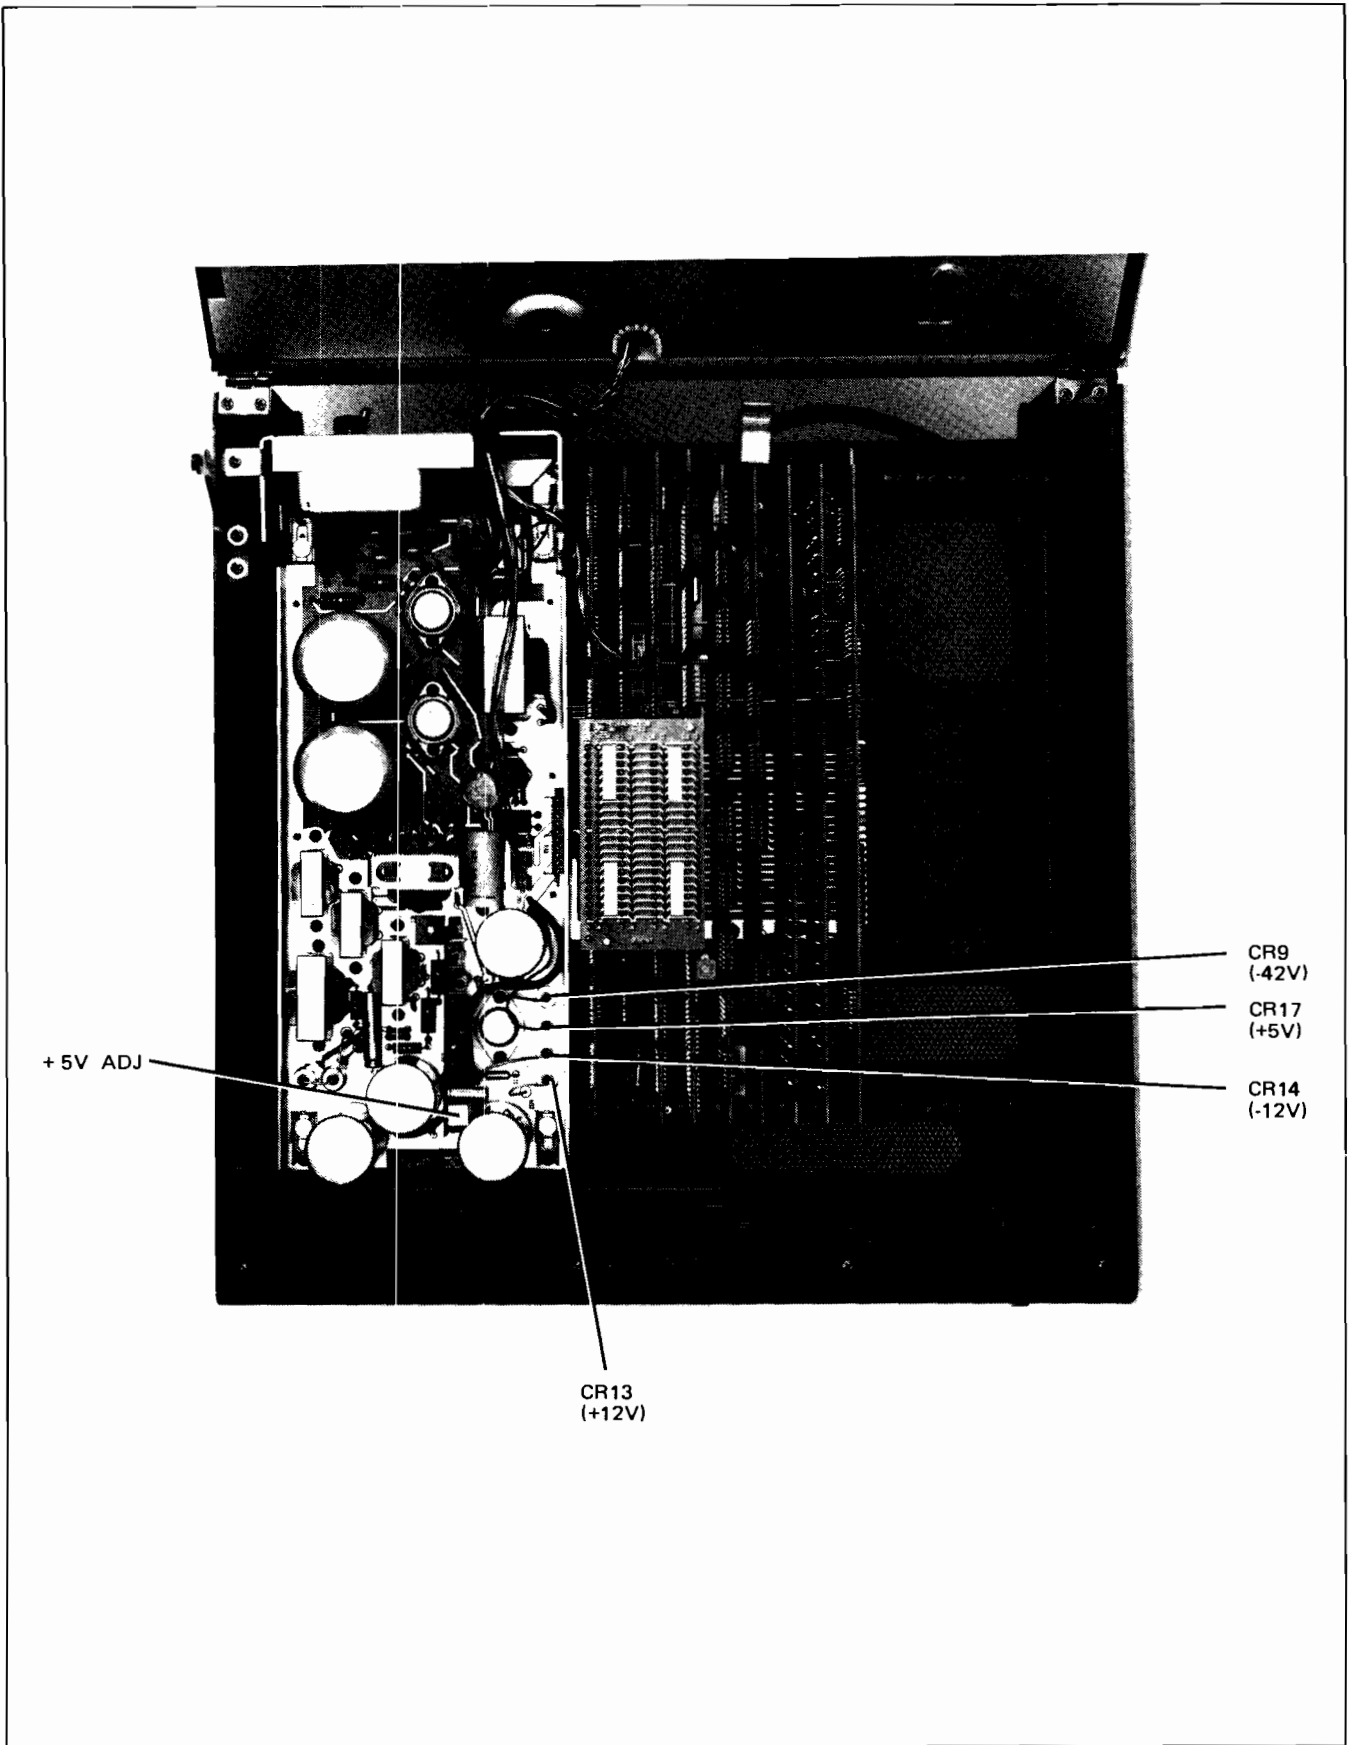

Figure 3-2. Power Supply Test Point and Adjustment Locations (Early Model Power Supply)
**Note:** Two types of power supply, with different test point and adjustment locations, are used in the terminal. Compare figures 3-2 and 3-3 with your terminal to determine which figure to use to locate the test points and adjustment potentiometer.
- c. Connect multimeter between the +5V diode (figure 3-2 or 3-3) and chassis ground.
- e. Adjust +5V potentiometer (figure 3-2 or 3-3) for a multimeter indication between +4.85V and +5.25V.
- f. Check for  $-40\text{V}$  to  $-46\text{V}$  at  $-42\text{V}$  test point (figure 3-2 or 3-3),  $+11.8\text{V}$  to  $+12.6\text{V}$  at  $+12\text{V}$  test point, and  $-11.8\text{V}$  to  $-12.6\text{V}$  at  $-12\text{V}$  test point.